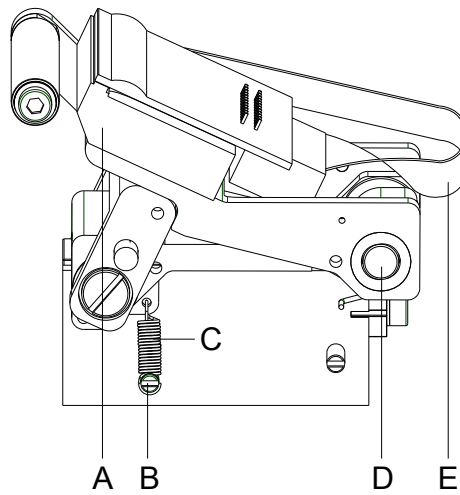

Figure 22
3. Remove printhead cable (E, Figure 22) from printhead (A, Figure 22).